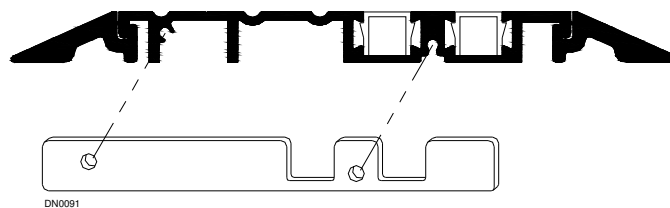

Figure 11
6. A screw spline has been extruded on the underside of the threshold. Stainless steel caps and screws are supplied in parts box to seal off exposed end of threshold. If screws install tightly, try drilling spline with a $\frac{1}{8}$ " dia. drill bit (See Figure 11).